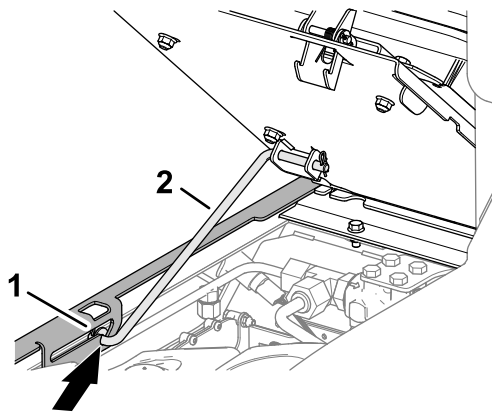

**Figure 100**
1. Move the seat latch outward (Figure 100).